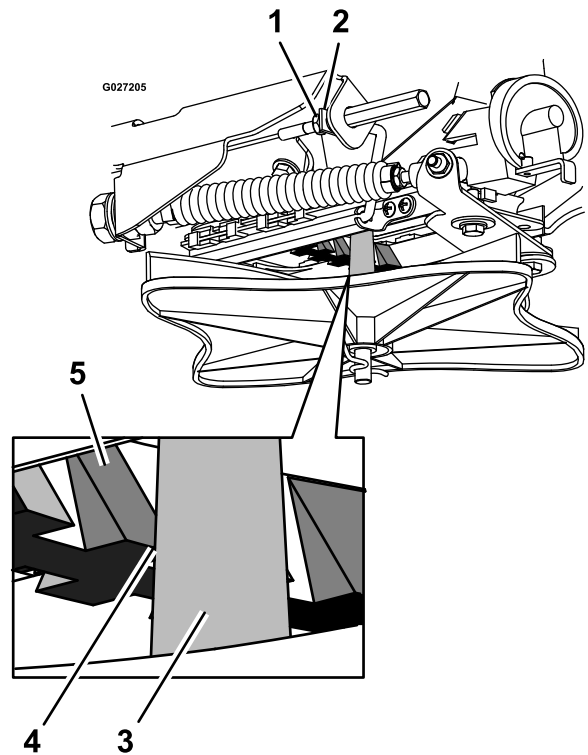

Figure 86
6. Pull the linkage rod until there is 1/8 inch (3.2 mm) gap between the ramp tooth and the impeller shaft (Figure 86).
7. Tighten the jam nut (Figure 86).
5. Loosen the jam nut at the end of the pattern-control cable (Figure 86).